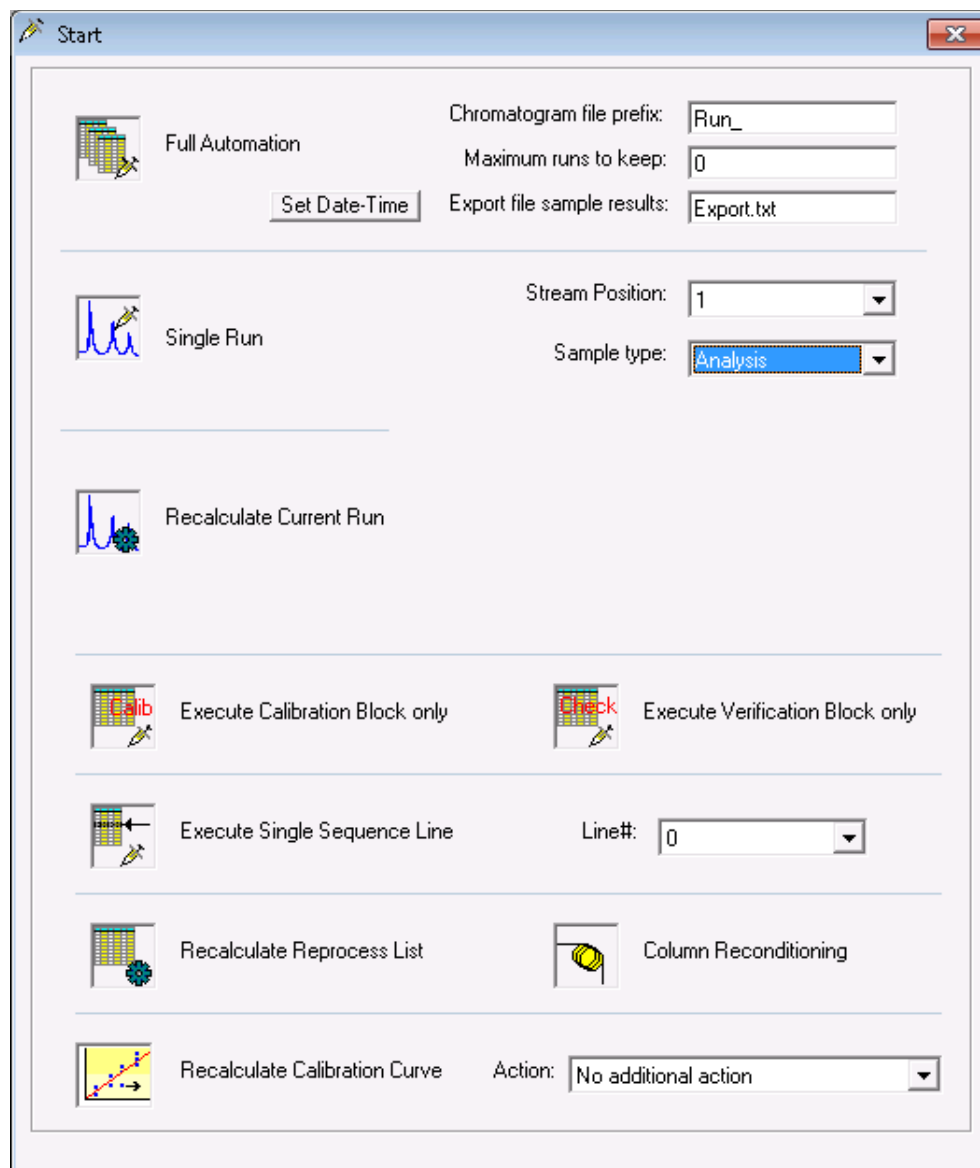

Figure 205. Start
- Set chromatogram file name in the correct field, see **Figure 205** on page 439.
- Set Maximum runs, for example, 100 runs, see **Figure 205** on page 439.